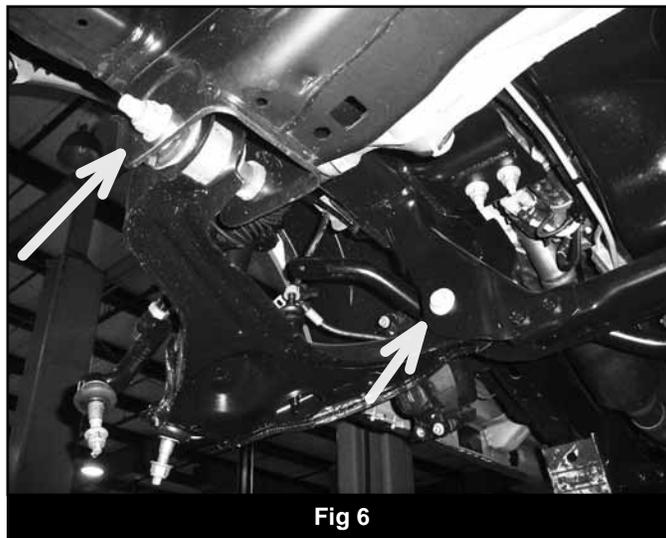

Fig 4
12. Disconnect the sway bar links from the sway bar (Fig 4). Retain hardware. The sway bar links do not need to be removed from the lower control arms.